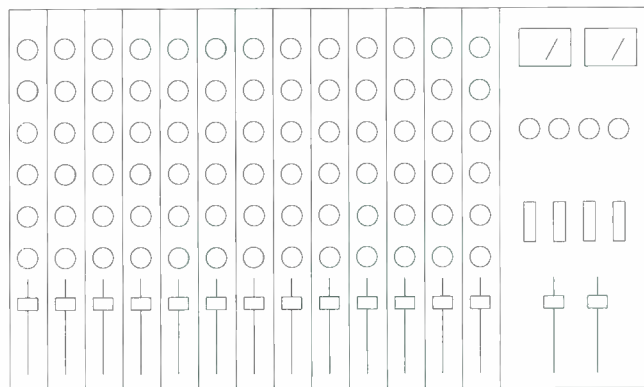

Figure 1-6. A mixer.
- **Mixer** (Figure 1-6): a unit that blends several different audio signals into a single stereo signal. For example, you might mix the signals of a synthesizer, sound module, drum machine, and multi-track tape recorder.